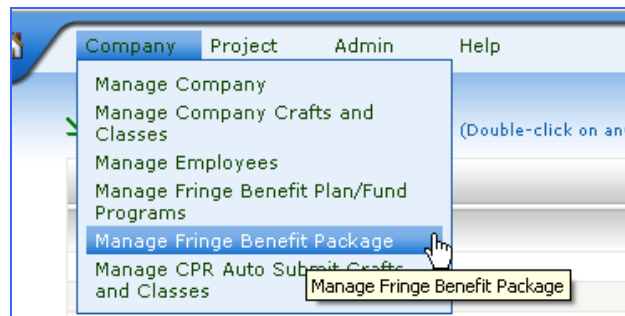

Figure 57 - Manage Fringe Benefit Packages Menu
1. From the Company menu, click on “Manage Fringe Benefit Package” (Figure 57). This will open the Fringe Benefit Package List screen.